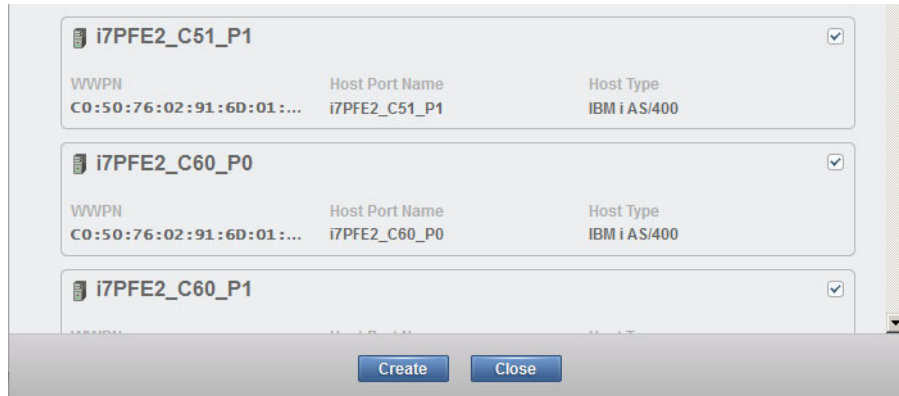

Figure 11-70 Update Unassigned Host Ports
4. Click **Automatically Create Hosts**. A list of detected hosts and unassigned host ports are displayed as shown in Figure 11-70. Verify the list and click **Create** to complete the assignment task automatically.